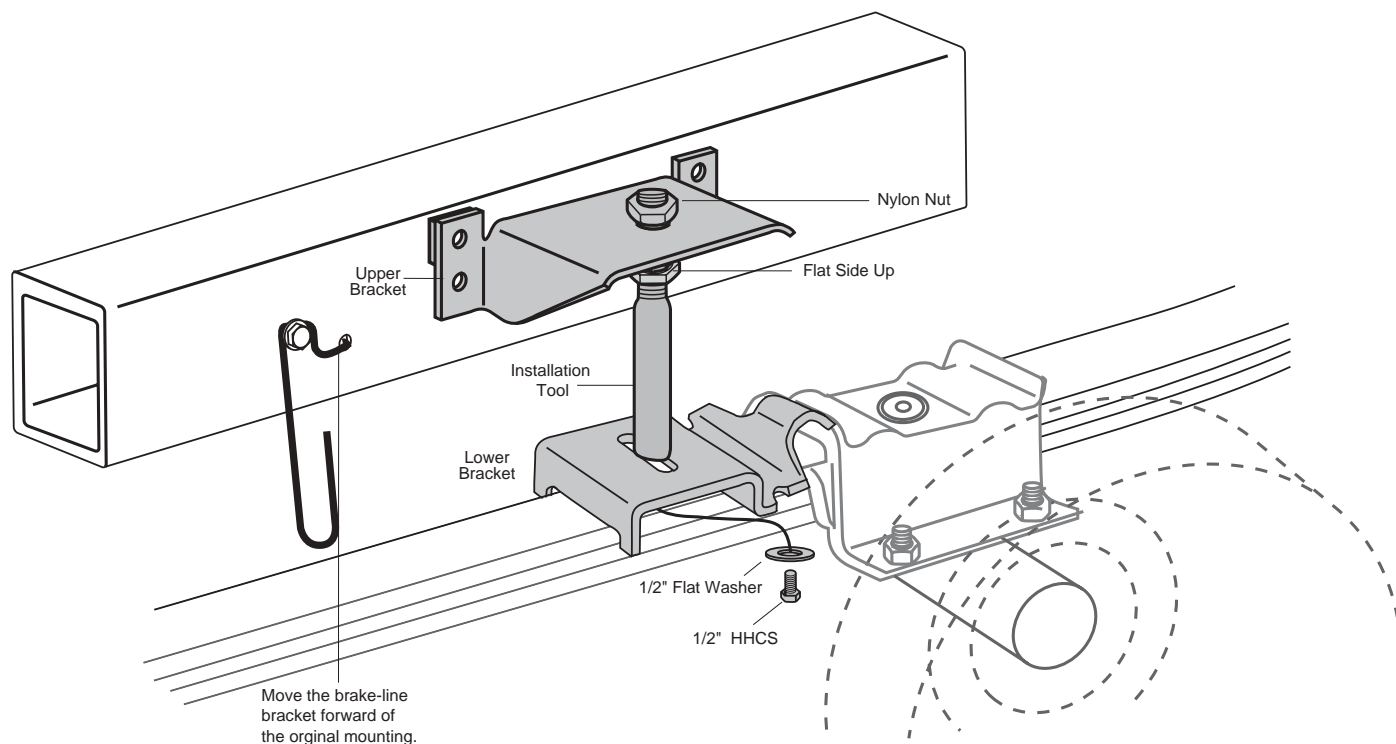

Figure 1
1. Place the upper bracket (B) onto the threaded end of the alignment tool (D). Thread a nylon nut (E) onto the tool to hold the bracket in place. Leave loose at this time (Figure 1).
2. Using a 1/2" bolt (F) and flat washer (G), attach the lower bracket (C) to the bottom of the installation tool.
Refer to figure 1 when relocating the brake-line bracket.
IMPORTANT NOTE: There must be at least 1.5" above the upper bracket for air fitting clearance. The brackets can be mounted anywhere within the threaded range of the installation tool (Figure 1).
Insert the top of the air spring through the hole in the upper bracket and attach with a hex nut (E) (Figure 1). Leave loose at this time.